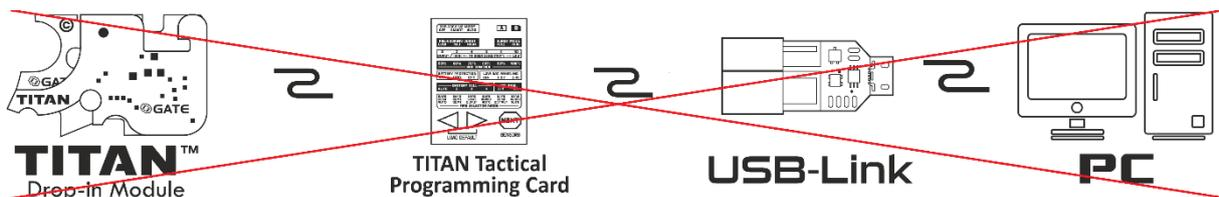

Fig.7
Cascade connection is forbidden (USB-Link->Tactical Programming Card->TITAN) (Fig.7).
- Cascade connection is forbidden (USB-Link->Tactical Programming Card->TITAN) (Fig.7).**